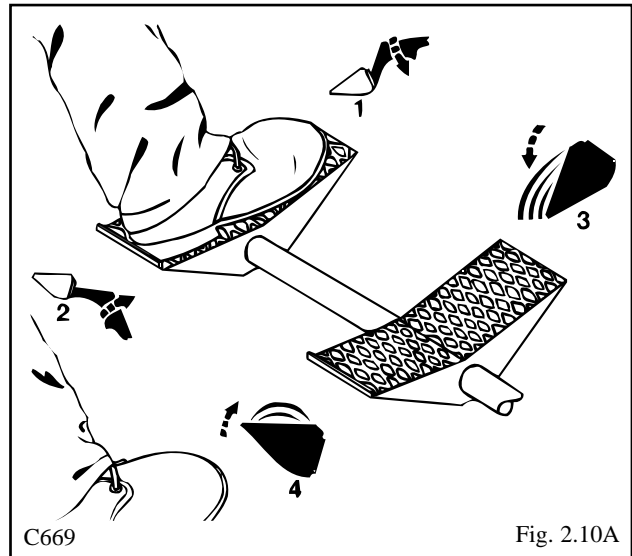

Fig. 2.10A
Operation of the lift cylinders and bucket tilt cylinders are controlled by foot pedals (Fig. 2.10A) connected to a hydraulic control valve. The hydraulic control valve is a series type valve which allows simultaneous use of both the lift and bucket tilt circuits.
Lift – The L.H. pedal is the lift control (Fig. 2.10A). To raise the lift arms press on the heel (2) of the pedal. To lower the lift arms press on the toe (1) of the pedal. Firm pressure on the toe (1) of the pedal will lock the lift arms in float position. This allows the bucket to follow the ground as the loader moves backward.